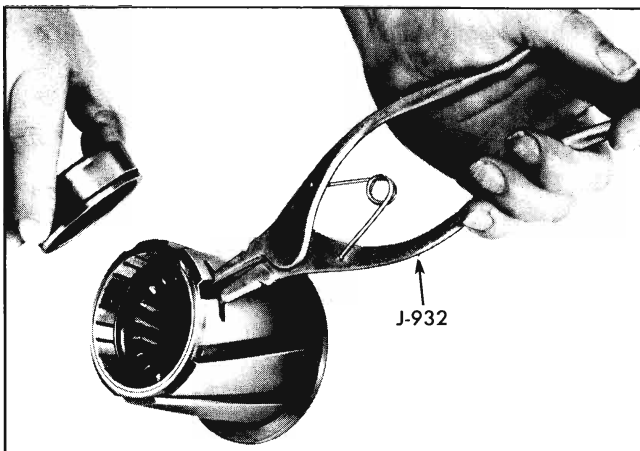

Fig. 7-40 Removing Synchronizer Ring
3. Using Tool J-932, expand the retainer into the counterbore in the clutch sleeve. This raises the retainer from the groove in the ring so ring may be easily slipped out (Fig. 7-40).